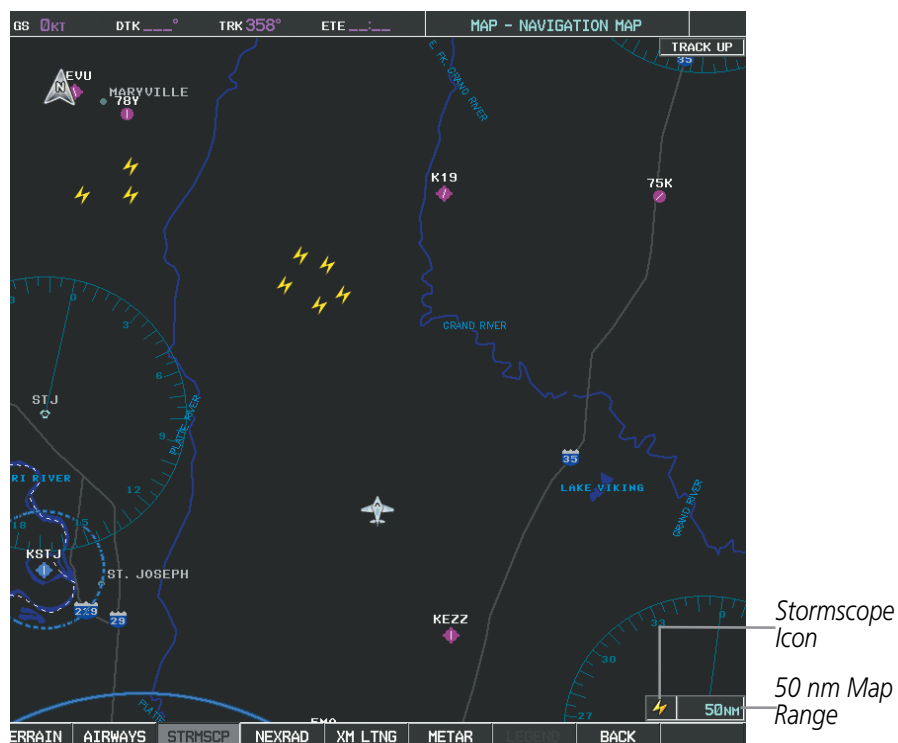

Figure 6-120 Navigation Map Page with Stormscope Lightning Data
- 7) Press the **FMS** Knob to return to the Navigation Map Page (Figure 6-120).
On the Navigation Map, cell mode identifies cells of lightning activity (Figure 6-120). Stormscope identifies clusters of electrical activity that indicate cells. Strike mode indicates the approximate location of lightning strikes.